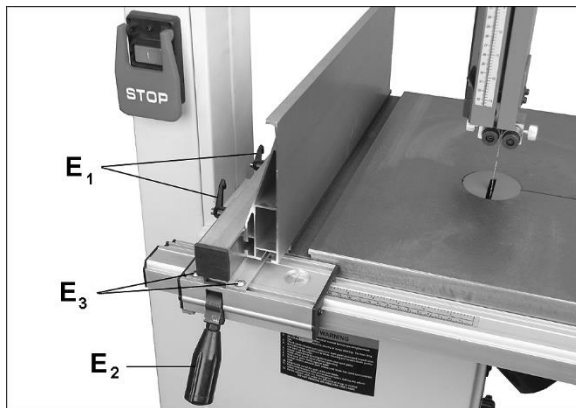

Figure 5-19
3. If adjustment is needed, use the set screws which are located next to the fence body screws (E₃, Figure 5-19). Loosen the four screws (E₃) and turn any of the four adjoining set screws in or out as needed, until fence is flat against blade.
5. Loosen handles (E₁, Figure 5-19) and slide fence onto bar. Tighten handles (E₁).
6. Slide fence against edge of miter slot (Figure 5-19) and push down handle (E₂) to lock position. The fence should align parallel to miter slot along entire length of fence.
7. If adjustment is needed, loosen four screws (E₃, Figure 5-19) and shift fence body as needed to align fence with miter slot.
11. Verify that fence, top-to-bottom, lies flat against side of blade. If it does not, use the set screws which are located next to the fence body screws (E₃, Figure 5-19). Loosen the four screws (E₃) and turn any of the four adjoining set screws in or out as needed, until fence is flat against blade.
5. If adjustment is needed, loosen the four screws (E₃, Figure 5-19) on the fence body and nudge fence body left or right along the tracks in the fence guide, until cursor aligns with zero when fence is against blade.